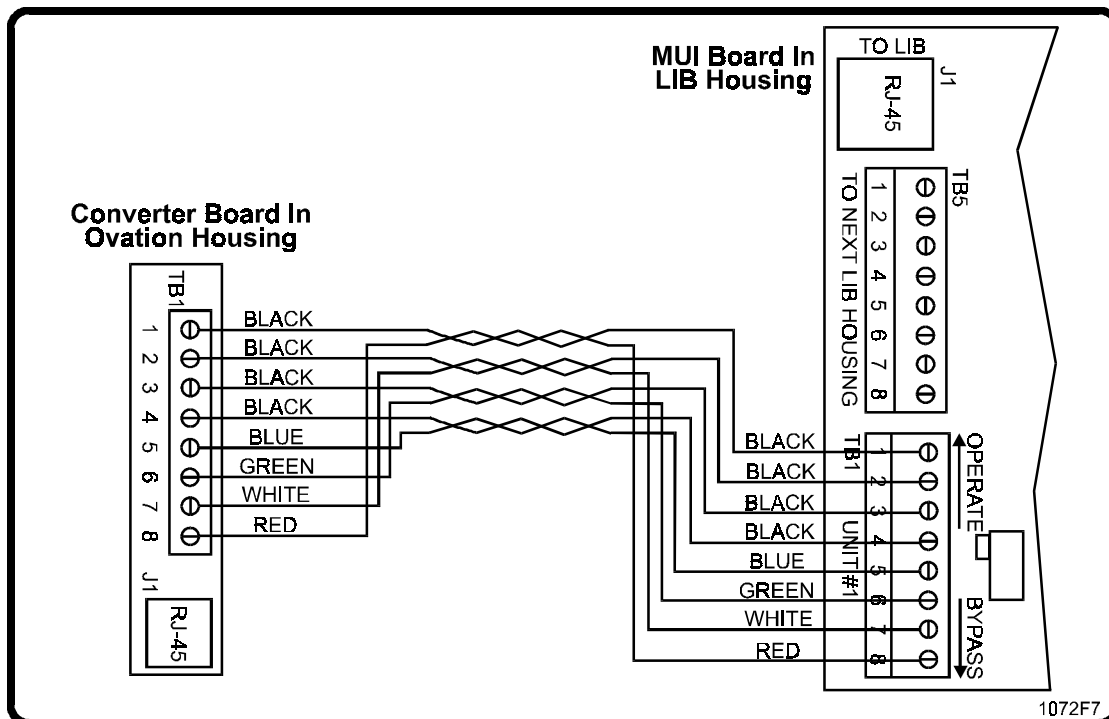

Figure 7. Multiple Entrance Ovation Controller Cabling.
- A 4 twisted pair cable** from the Ovation Controller to the MUI located in the first LIB housing, as shown in Figure 7. This cable can be up to 2500 feet in length. Each additional Ovation controller must be wired to the corresponding unit number on the MUI.